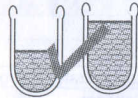

Fig. 1
2. Put remaining clothes & press the clothes again. (fig. 1)
1. Pull out the Lint Filter from the lock, use fingers to press & pull out at the part of the Lint Filters side. (Fig. 1)
1. Push the upper part of the Magic Filter and pull off (Fig.1)